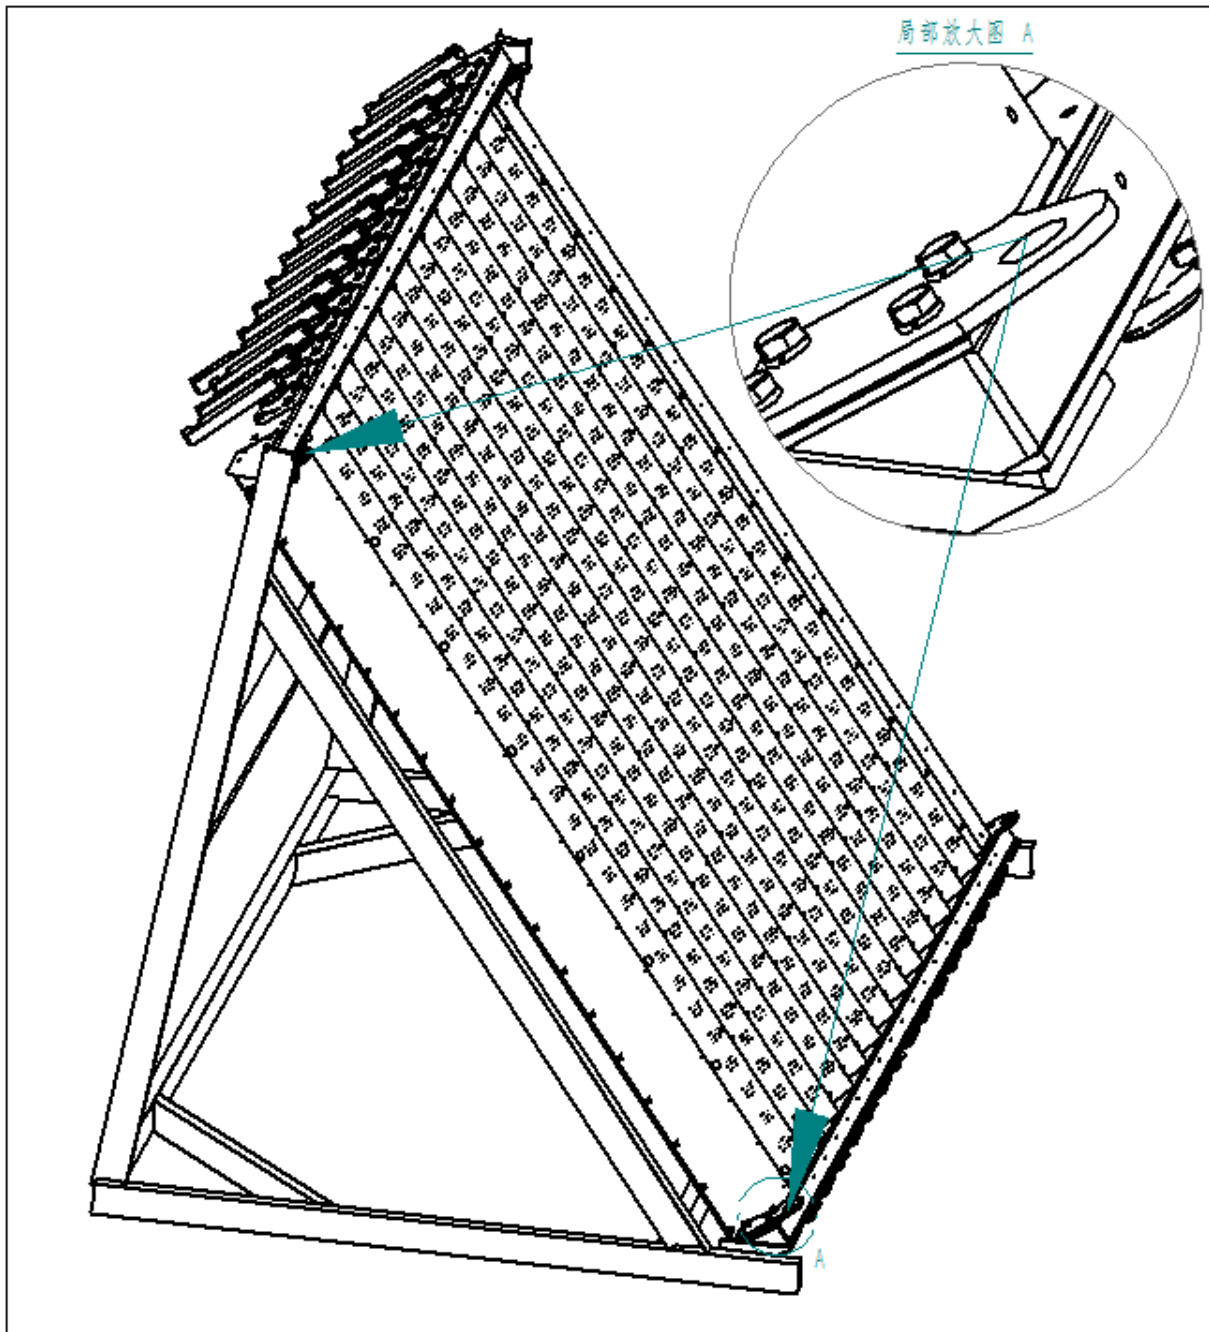

Fig. 4-1
(1) Hoisting
- ① Use the hoisting points correctly while carrying out hoisting
- ② The load capacity of the hoisting tool should be greater than that of the equipment
- ③ There are four hosting points on the discharging system. two on each side. Use the four points at the same time while hoisting. See Fig. 4-1.